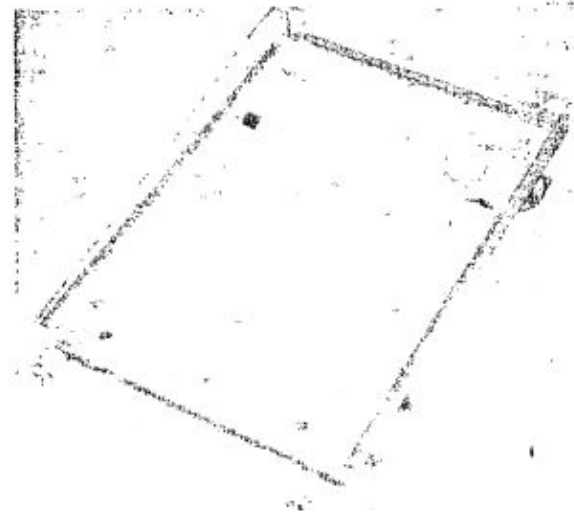

Figure 1-4. Mounting MT-273()/ARN-6 or MT-274()/ARN-6
b. MOUNTING MT-273()^{*} ARN-6. (See figures 1-4 and 1-5.)—Mounting MT-273() ARN-6 is an aluminum frame, shock mounted, with a built-in junction board and control switch relay at the base. A female connector strip located in the back of the mounting is used for making electrical connections with a similar connector strip on the back of the radio compass unit as it is slid into the mounting. Two locking knobs on the front of the mounting are used to